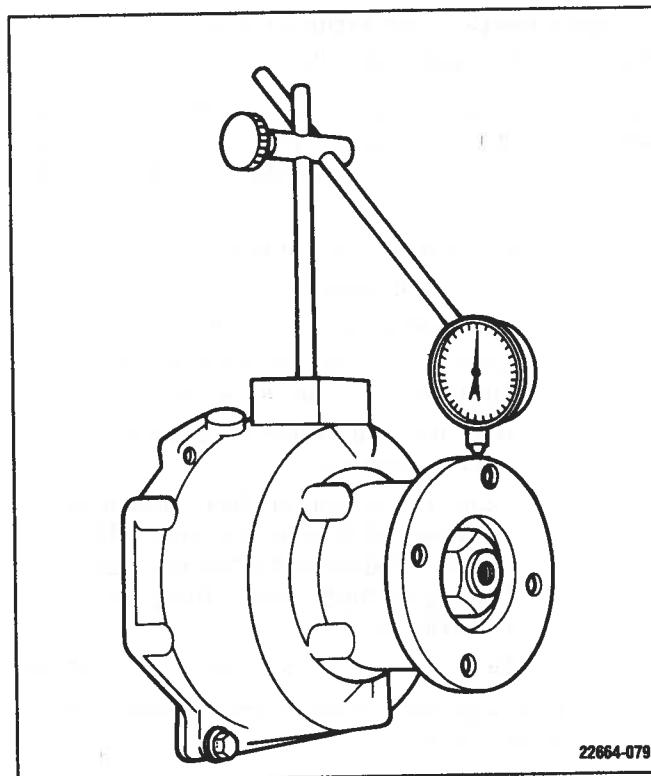

Figure 11-12. Checking Coupling Outside Diameter – Rotate One Complete Turn
3. Check out coupling flange of transmission (see Figures 11-12 and 11-13).